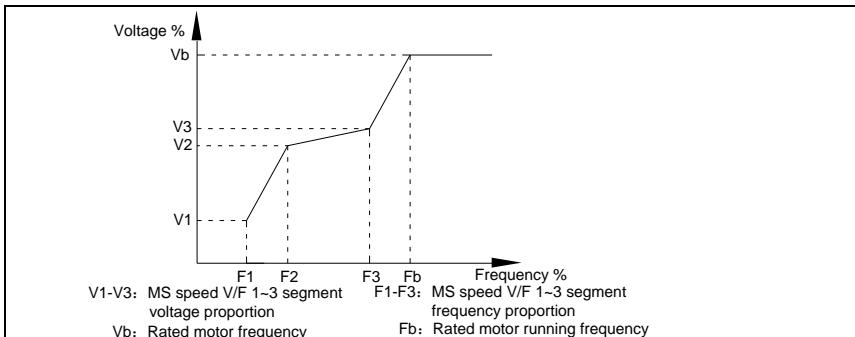

Fig. 5-4 Multi-point V/F curve setup schematic diagram
- 1) It must be set as follows:  $V1 < V2 < V3$ ,  $F1 < F2 < F3$ . Fig5.4 is schematic diagram for multi-point V/F curve.